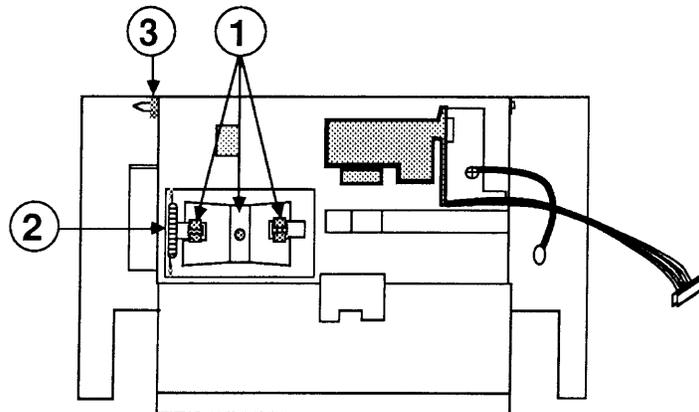
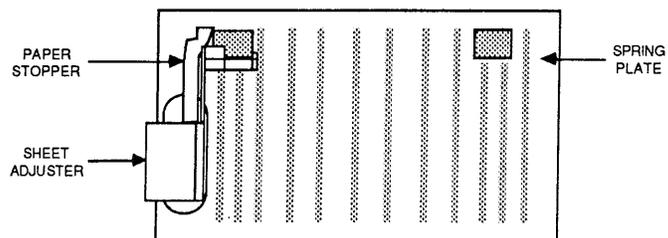

FIGURE 5
FIGURE 6
2. Remove the metal spring plate, which holds the sheet adjuster in place, by squeezing the three tabs (Figure 5, #1) together with a pair of needle-nose pliers.
3. Disconnect the spring (Figure 5, #2) that holds the paper stopper in place.
4. Remove the e-ring (Figure 5, #3) from the pointed end of the spring plate shaft.
5. Set the housing assembly on its side, squeeze the three tabs again (Figure 5, #1), and push them through the openings in the housing. Turn the housing over and remove the plastic spring plate with the attached pieces (Figure 6).
2. Position the plastic spring plate and the attached pieces so that the tabs line up (Figure 5, #1). Snap the plate into position and hold it there.
3. Insert the pointed end of the spring plate shaft through the housing, and attach the e-ring (Figure 5, #3).
4. Position the metal spring plate and snap it into place over the tabs (Figure 5, #1).
5. Connect the spring (Figure 5, #2) that holds the paper stopper in place.